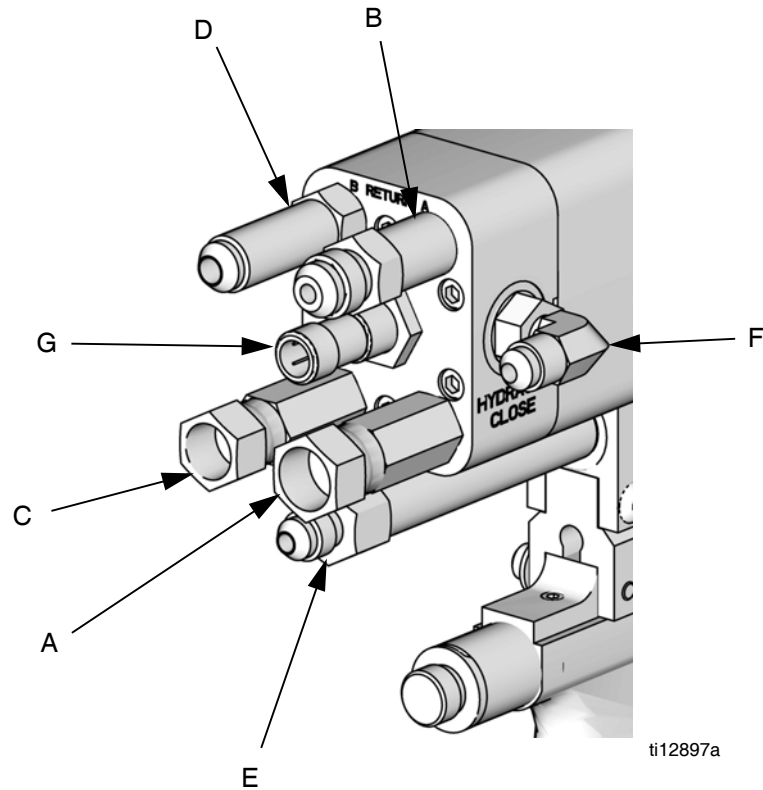
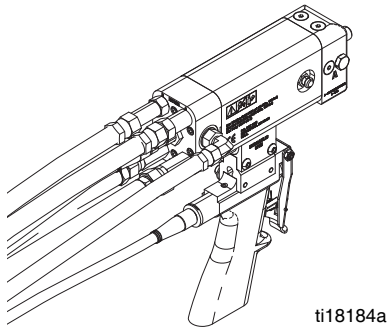

FIG. 5
FIG. 9
11. Install chemical hoses to gun. See FIG. 5 on page 10 and FIG. 9.